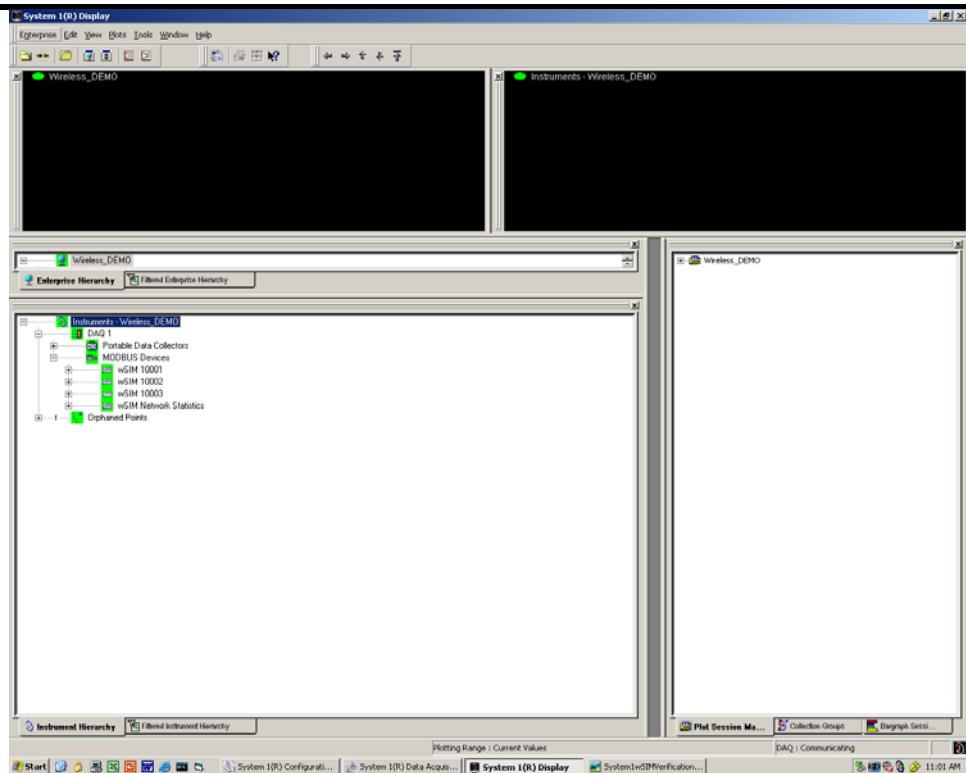

Figure 4-7: System 1® Display
7. Expand Modbus Devices. You should see three (3) wSIM devices and one (1) network statistics device.
8. If the system is configured properly, the four (4) Modbus devices configured for the WiTry™ System should be blinking green, see Figure 4-7.